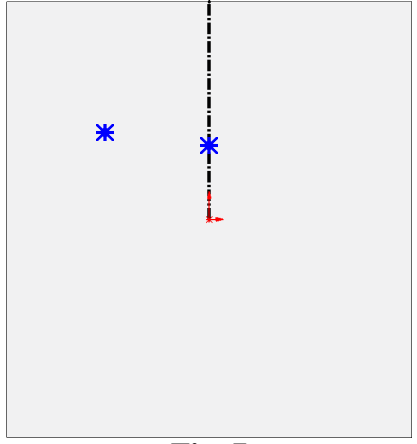

Fig. 7
Step 6. Sketch **point on center-line and point to left**, **Fig. 7**.